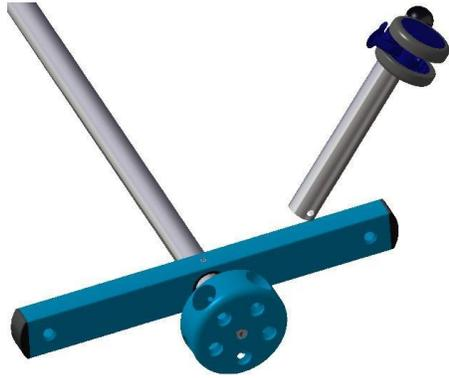

Figure 1
1. Attach the base using the five large bolts included in the kit. A) Insert one of the wheel posts into the base collar and B) adhere with one large bolt using the hex key. C) Repeat each wheel post until all 5-wheel posts are inserted and tightened. (Fig. 1–1C).